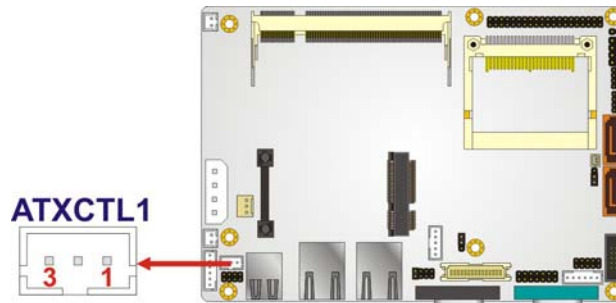

Figure 4-3: AT Power Select Jumper Location
- Jumper Location:** See **Figure 4-3**